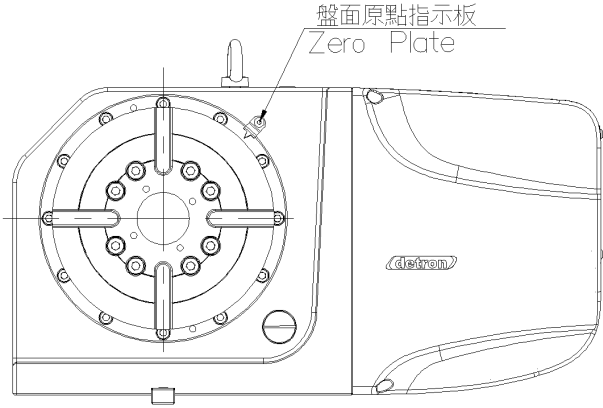
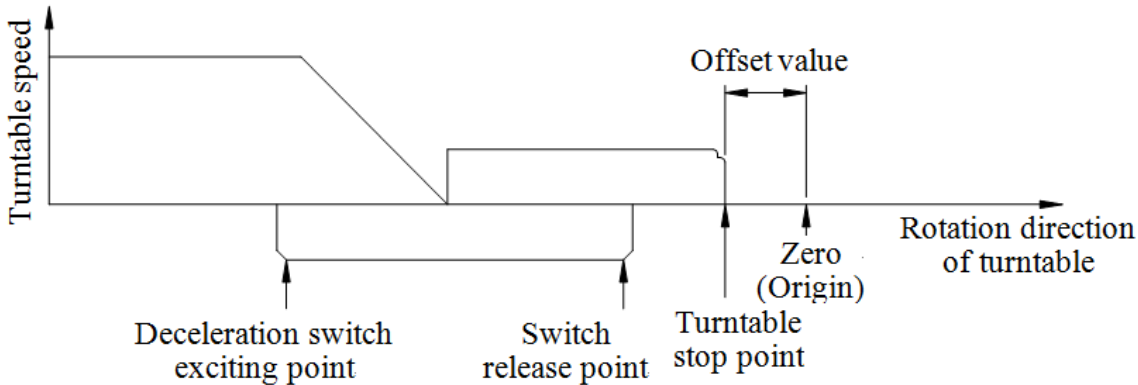

Fig 8-2
Fig 8-3
- (1).When the machine receives Zero Reset Command from NC controller, the Rotary Table will start to rotate in the specified forward direction to zero position.
- (2).When the Zero Dog touches the Proximity Switch, Rotary Table starts to decelerate for an accurate and prompt stop.( *see Fig 8-3*)
- (3).When the Rotary Table reduces its rotation speed, it will stop at Zero when a reference signal from the motor is received.
- (4).Perform turntable operation several times; measure errors between the actual stopping point and nominal stopping point of the Rotary Table. Enter the measurements into Zero Offset of the NC System for correction.
- ※In general, Zero Return is positioned when face plate T-slot is parallel to the bottom of the body, and the "0" position on the face plate indicates to the zero plate position.( *see Fig 8-2*)